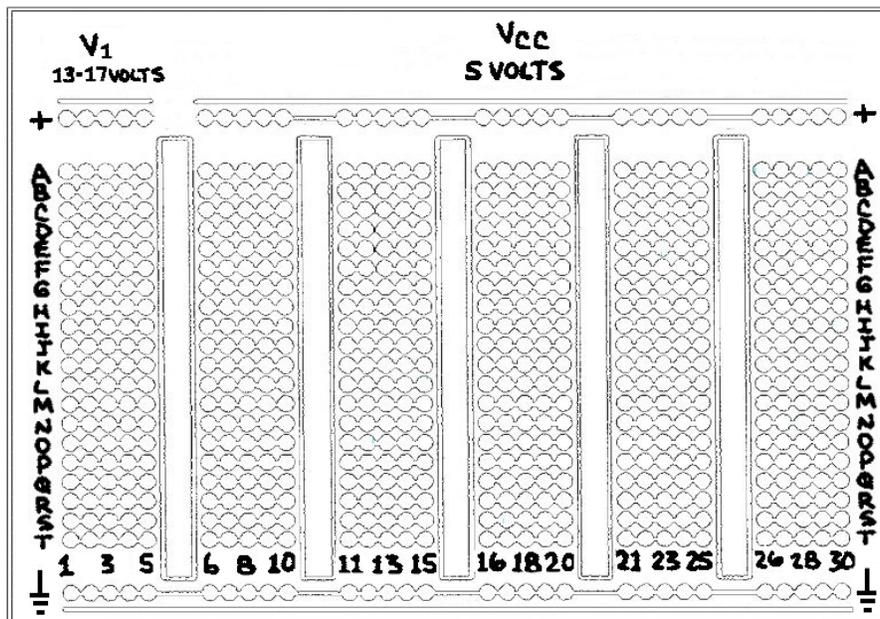

Figure 1.2 Radio Shack Learning Lab Console Solderless Breadboard
Gently bend the leads of the $1\text{K}\Omega$ resistor you just measured the resistance of close to the device's body to form a "U" and insert the resistor (R_1) into the breadboard's connection points **A25** and **F25** with four (4) empty points between the two leads (see Figures 1.2 and 1.3). This will result in the schematic (and pin locations) of figure 1.2. Recall that there is **NO** polarity for our resistors although having the **gold** band at the lower end looks nice.
Carefully remove ALL the insulation from the three inch piece of wire. Then cut this piece of now bare wire into one inch lengths and bend each into a "U" loop. Connect one loop to a pair of connection points between the leftmost + sign and the "1" power label (e.g., pins 2 and 4, see Figure 1.2) to permit easy access to the AC Adapter power with the **RED** alligator clip. Insert a second loop of wire into any pair of the GROUND connections at the bottom of the breadboard for connecting to the **BLACK** alligator clip. You now have an easy way to connect your resistors to positive or plus voltage and ground with these two alligator clips. A third wire loop can be placed into any pair of the 25 connections between "1" and the rightmost + sign for use in checking that voltage (*currently zero, this will become the connections our 5 volt regulated voltage source*).
When the Power Strip and Console switches are both in the **ON** position the output of the AC Adapter is connected directly to the leftmost top five connecting points (labeled **V₁ 13-17 volts** on the figure, but **NOT** on the actual breadboard, where they are between the **+** sign and number **1**, see Figure 1.2 on page 2. The AC Adapter was designed to deliver 9 volts at 150 milliamperes (0.150 Amperes). The adapter voltage is variable, that is, it will be *greater* than 9 volts when *less current* is drawn from it.